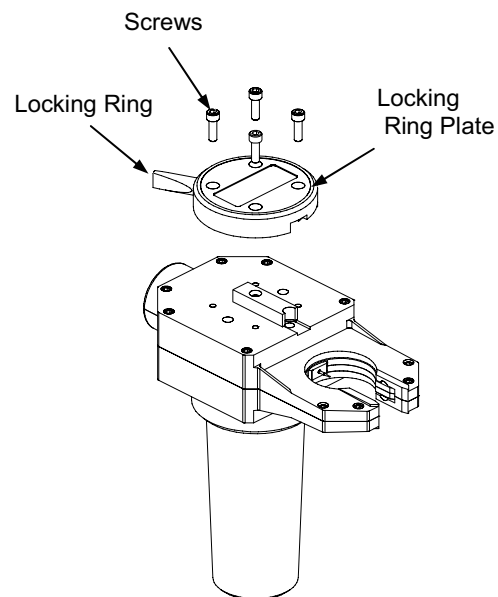

Figure 30 Removing the Locking Ring and Locking Ring Plate
2. Remove the four screws, locking ring, and locking ring plate. See Figure 30.